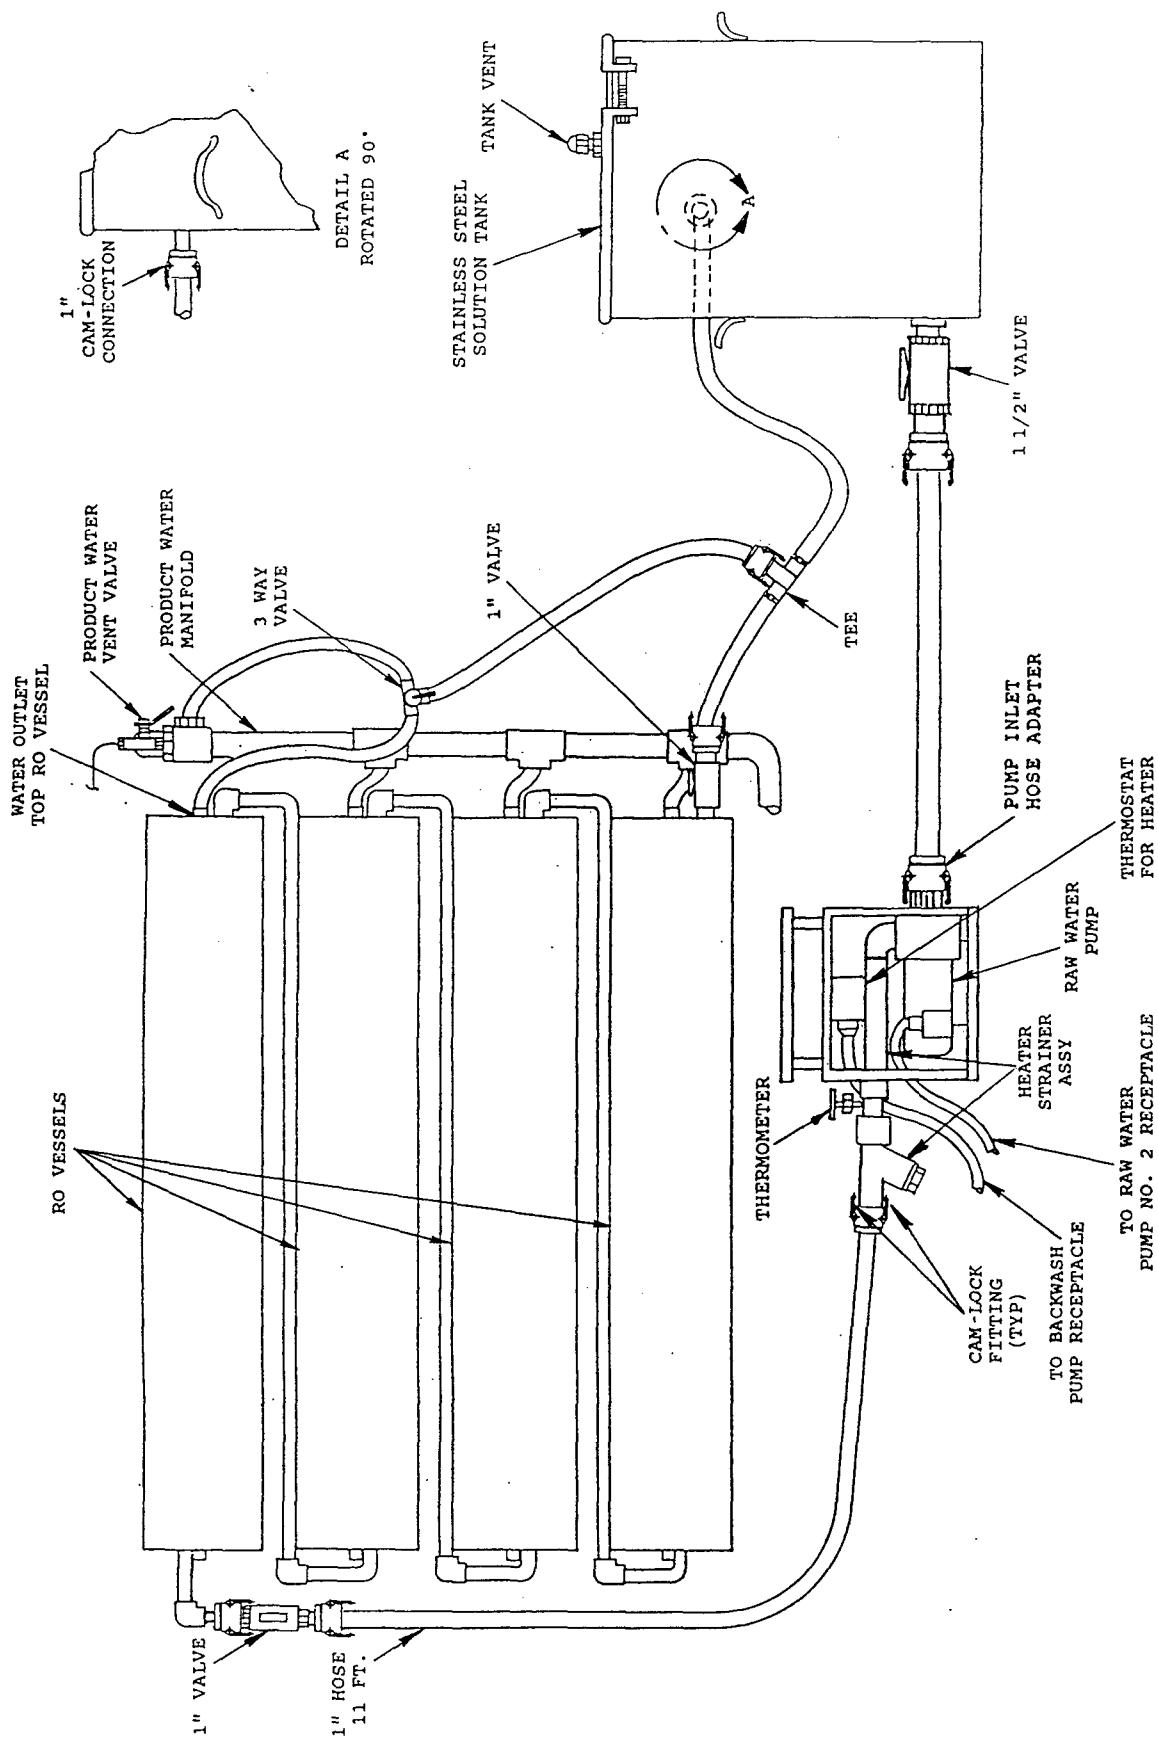

Figure 1-1. Reverse Osmosis Element Cleaning and Preservation System.
- 1-2.1      Physical Description. The basic set-up of the ROECPS and its attachment to the 600 gph ROWPU is shown in figure 1-1. This configuration is used for both the cleaning and preservation of the reverse osmosis elements. It allows the cleaning and preservation chemicals to bypass all pretreatment components and high pressure piping of the ROWPU in order to minimize the quantities of cleaning and preservative solutions used. This also reduces the potential for corrosion of the copper/nickel piping on certain versions of the 600 gph ROWPU. The ROECPS uses one of the ROWPU's raw water pumps to circulate the cleaning and preservative solutions through the elements. Power for the electrical heater that heats the solutions
RO vessel bypass assembly (not shown in figure 1-1).	Two 1 inch victaulic by quick disconnect fittings and 12 ft. section of 1 inch tubing with quick disconnect fittings. Connects between elbowed victaulics at inlet and outlet of top and bottom RO vessels. Allows flushing of complete ROWPU with freshwater without entering RO vessels.
- a. Position the solution tank at the left rear corner of the ROWPU approximately 2 to 3 feet from the ROWPU, as depicted in figure 1-1.
- b. Position the raw water pump approximately 3 feet from the solution tank. The suction of the pump should be facing the 1-1/2 inch fitting located at the bottom of the solution tank. Rotate the elbow at the discharge of the pump so it points toward the right side of the ROWPU, see figure 1-1.